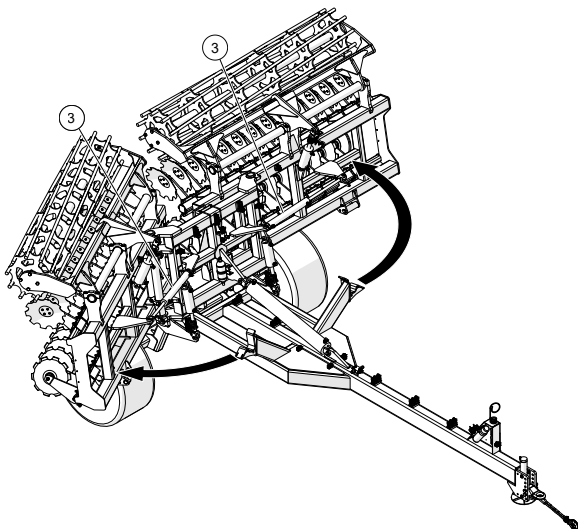

Figure 7. Unfolding Wings
4. Extend the wing cylinders (**#3**) to unfold wings. When the last wheel touches ground place wing cylinders in float. See **Figure 7**.